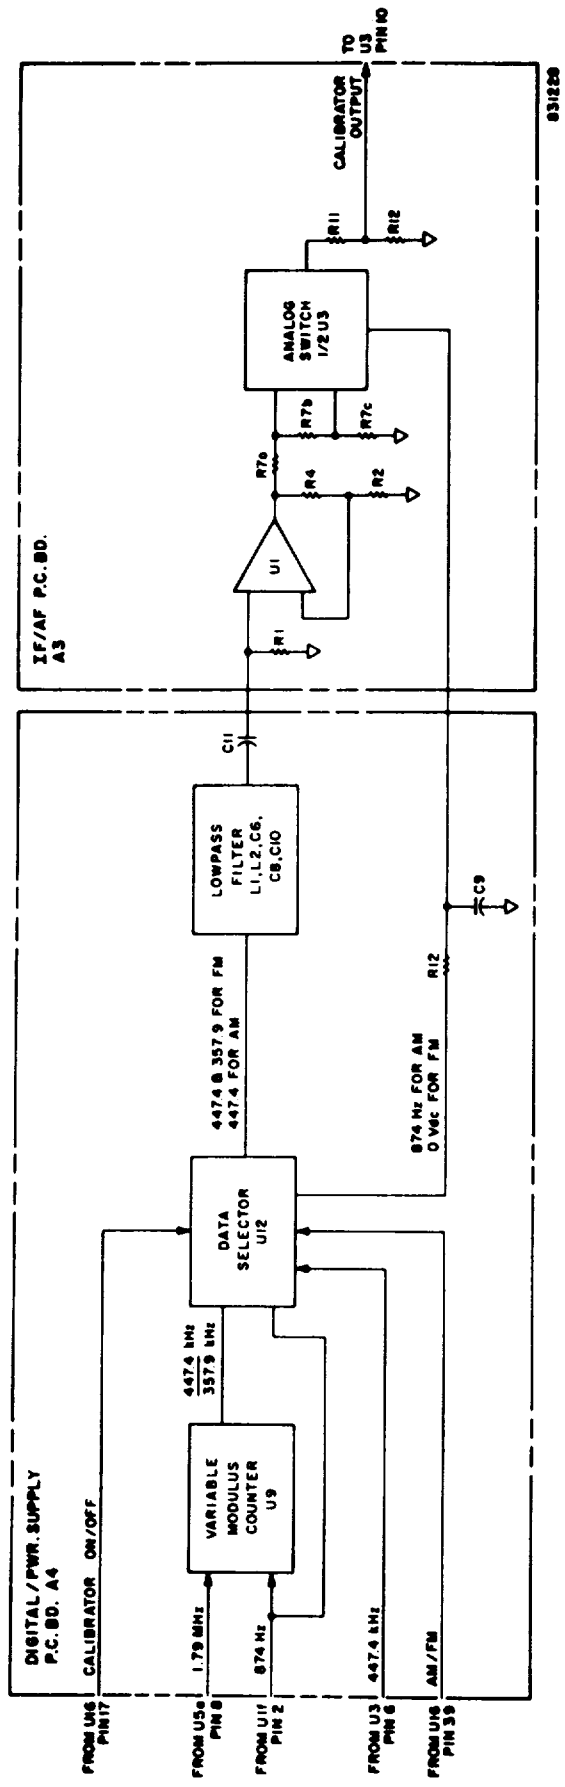

Figure 3-5. Calibrator Circuits: Detailed Block Diagram
- (2) The active detector circuit, which comprises transistors Q4 through Q6, diodes CR6-CR7, and associated components, converts the input current into two half-wave-rectified signals. The circuitry of Q4-Q6 yields maximum gain and a high output impedance for driving the feedback network. The two half-wave-rectified signals at the outputs of CR6 and CR7 are added to complete the feedback path.
- (3) The output at detector diode CR7 is a signal that contains a d.c. component proportional to if. level, and an a.c. component proportional to modulation depth. This signal is lightly filtered by R47 and C27, and amplified by U9a. The output of U9a is connected to the a.m.-f.m. switch U14.
- (4) A portion of the linear active detector's output is coupled to a limiter circuit via impedance transformer Q2 and associated components. The limiter, consisting of CR4, CR5, R22 & R17, removes most a.m. from the if. signal. The resulting signal is amplified to TTL levels by amplifier Q1, then differentiated by C9, R19 and R20. The TTL gates U6a and U6b amplify the differentiated signal into a narrow TTL pulse to drive U7, a monostable multivibrator.
- (5) The period of U7 is 1.25 us, approximately. The network consisting of R43-R46 and CR8 confines the peak-to-peak amplitude of U7's output to four volts. As the intermediate frequency changes, the duty cycle of the multivibrator--and consequently the average value of the waveform--changes proportionally.
- (6) The signal is lightly filtered by R48 and C28, then amplified and level-shifted by U9b. The signal is routed to the a.m.-f.m. switch U10, and to the audio circuits.
c. Calibrator Circuits. The calibrator circuits provide the reference calibration signals for the 8210's a.m. and f.m. detectors. See Figure 3-5. (In addition to the circuit description given below, technical information on design and operation of the calibrator circuits appears in Appendix A.)
- (1) The 1.79 MHz signal from U5a, pin 8, is connected to the clock input of synchronous counter U9. The counter is configured to self-load its data inputs at the end of each count cycle. By varying the input data with an 874 Hz signal from U1f, pin 2, the divide modulus is changed from four to five. The signal that results synchronously switches from 357.9 to 447.4 kHz, producing an average frequency of 402.6 kHz and deviation of 89.48 kHz, p-p. This signal is used to calibrate the f.m. discriminator. The signal is connected to data selector U12, along with a signal at 447.4 kHz from U3, pin 6, and an 874 Hz signal from U1f, pin 2. The outputs of the data selector are controlled by the signals from U-16, pins 39 and 17. During the calibration cycle U16, pin 17, is "low;" pin 36 is set "high" for a.m. calibration, and "low" for f.m. calibration.
- (2) When the calibration routine initially selects AM FUNCTION, the outputs of the data selector are the signal from U3, and the 874-Hz signal from U1f, pin 2. The 447.4 kHz signal is routed through a low-pass filter consisting of L1, L2, C6, C8 and C10 to the if.